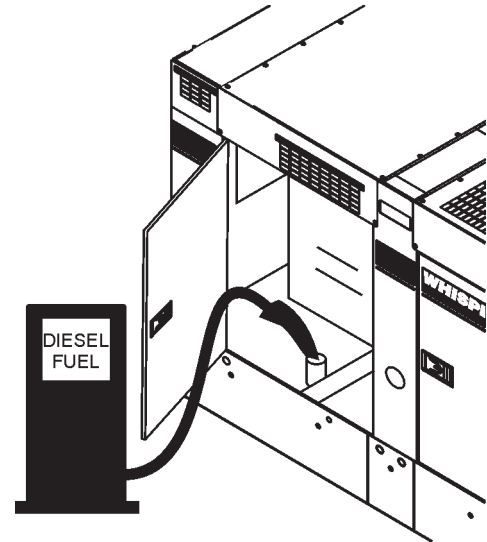

Figure 35. Fueling the Generator
1. **Level Tanks** – make sure fuel cells are level with the ground. Failure to do so will cause fuel to spill from the tank before reaching full capacity (Figure 35).
2. Open cabinet doors on the generator. Locate and remove the fuel tank cap and fill tank (Figure 35).